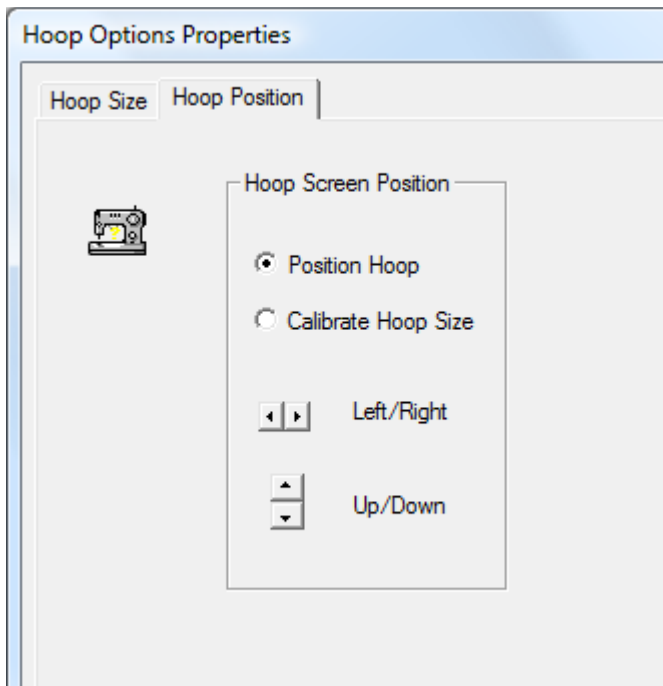

Figure 4 Hoop Position dialog to calibrate the displayed hoop size and position.
- Use the vertical (horizontal) spin control to change the vertical (horizontal) position and/or size of the hoop on the screen (see Fig. 4). Click the *Position Hoop* button to move the hoop to a suitable position on your screen. Click the *Calibrate Hoop Size* to adjust the size of the hoop on your screen. Generally, you only need to adjust the size of *one* hoop, and that will be sufficient to guarantee that all *other* hoops will be properly sized.